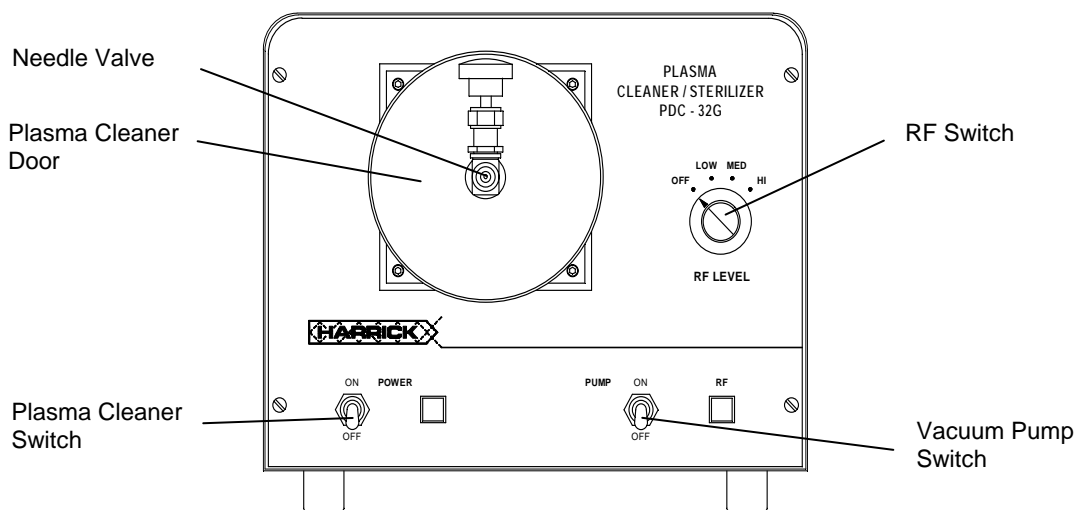

Figure 1 • Plasma Cleaner Front View (110V Model)
Before starting, take a few moments to familiarize yourself with the Plasma Cleaner by looking at the drawings of the front and back of the unit (Figures 1, 2).
- Turn on the vacuum pump switch on the front of the Plasma Cleaner (110V model, Figure 1) or on the vacuum pump (220V model). It will take a few minutes to evacuate the air in the Plasma Cleaner chamber. The vacuum will hold the Plasma Cleaner door in place.
- Turn on the Plasma Cleaner switch on the front of the Plasma Cleaner (Figure 1).
- Connect the needle valve on the Plasma Cleaner door (Figure 1) to the gas source through a pressure regulator.
- Turn on the vacuum pump switch on the front of the Plasma Cleaner (Figure 1). It will take a few minutes to evacuate the air from the reaction chamber of the Plasma Cleaner. The vacuum will hold the Plasma Cleaner door in place.